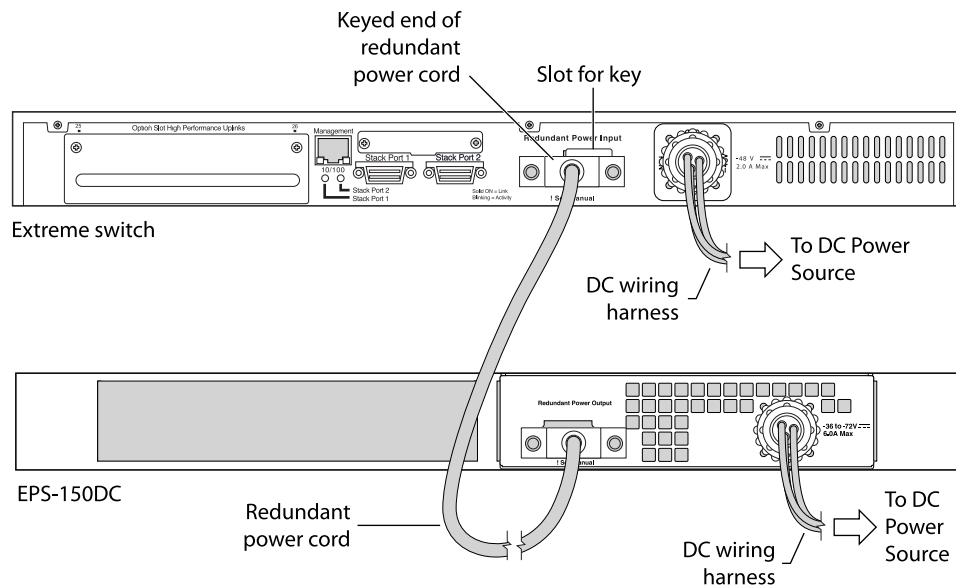

Figure 317: Connecting an EPS-150DC Unit to a Switch
- 3 Holding the keyed connector so that the side labeled “Top” is facing up, connect the EPS-150DC redundant power cable to the power supply unit (see Figure 317: Connecting an EPS-150DC Unit to a Switch on page 345).